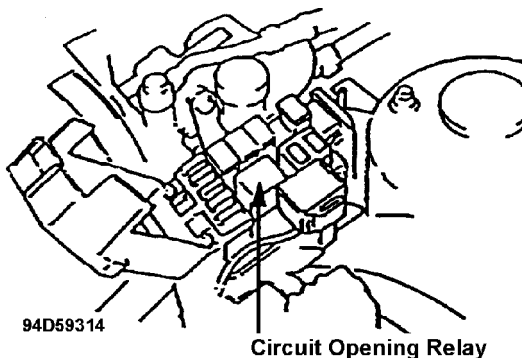

Fig. 32: Finding the Circuit Opening Relay
5. Install the circuit opening relay. See Fig. 32.